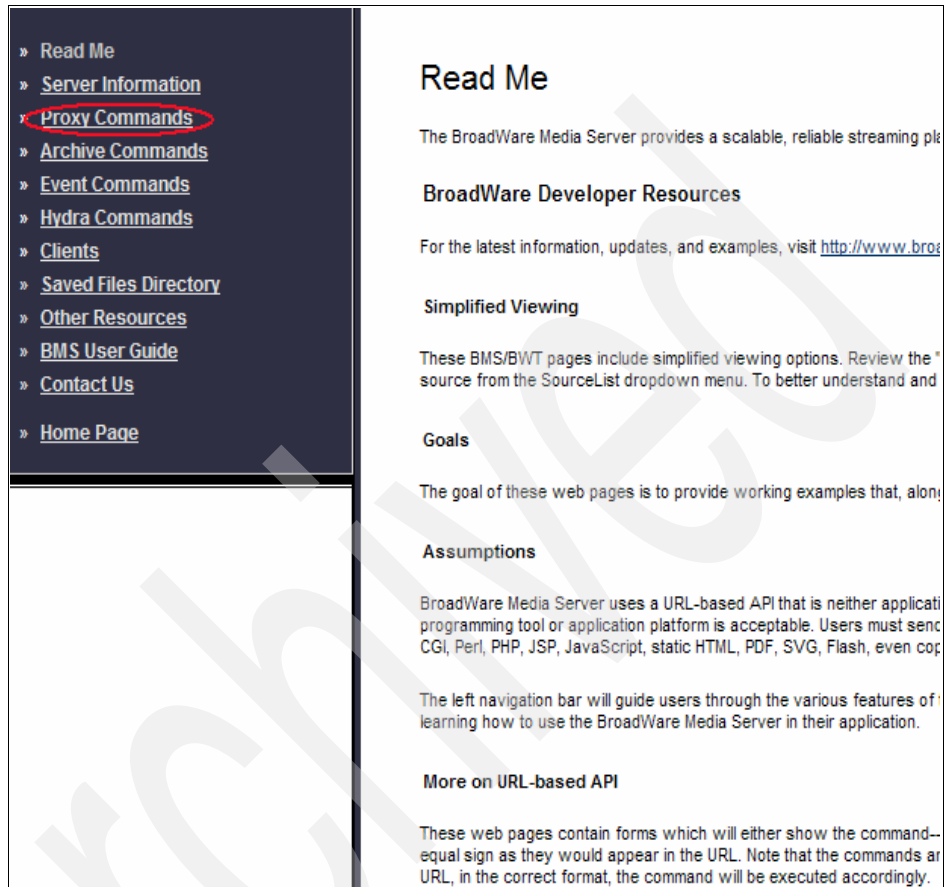

Figure 8-2 VSM
3. You are redirected to a Media Platform page, Figure 8-2. Click **Proxy Commands** to open the Proxy Commands menu.